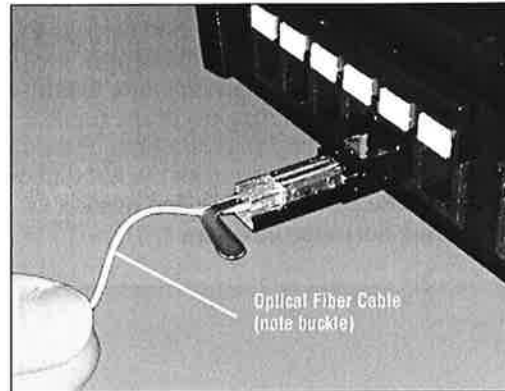

Figure 5
1. Insert the appropriate color fiber into the bottom hole of the A channel of the module. Push the fiber into the hole until it stops and a slight buckle in the fiber is created (see Figure 5). While holding the fiber in place, turn the actuation key handle until it points up (called the closed position). Remove the actuation key. Return to step 2.1.3 and repeat the process for the B channel of the module.